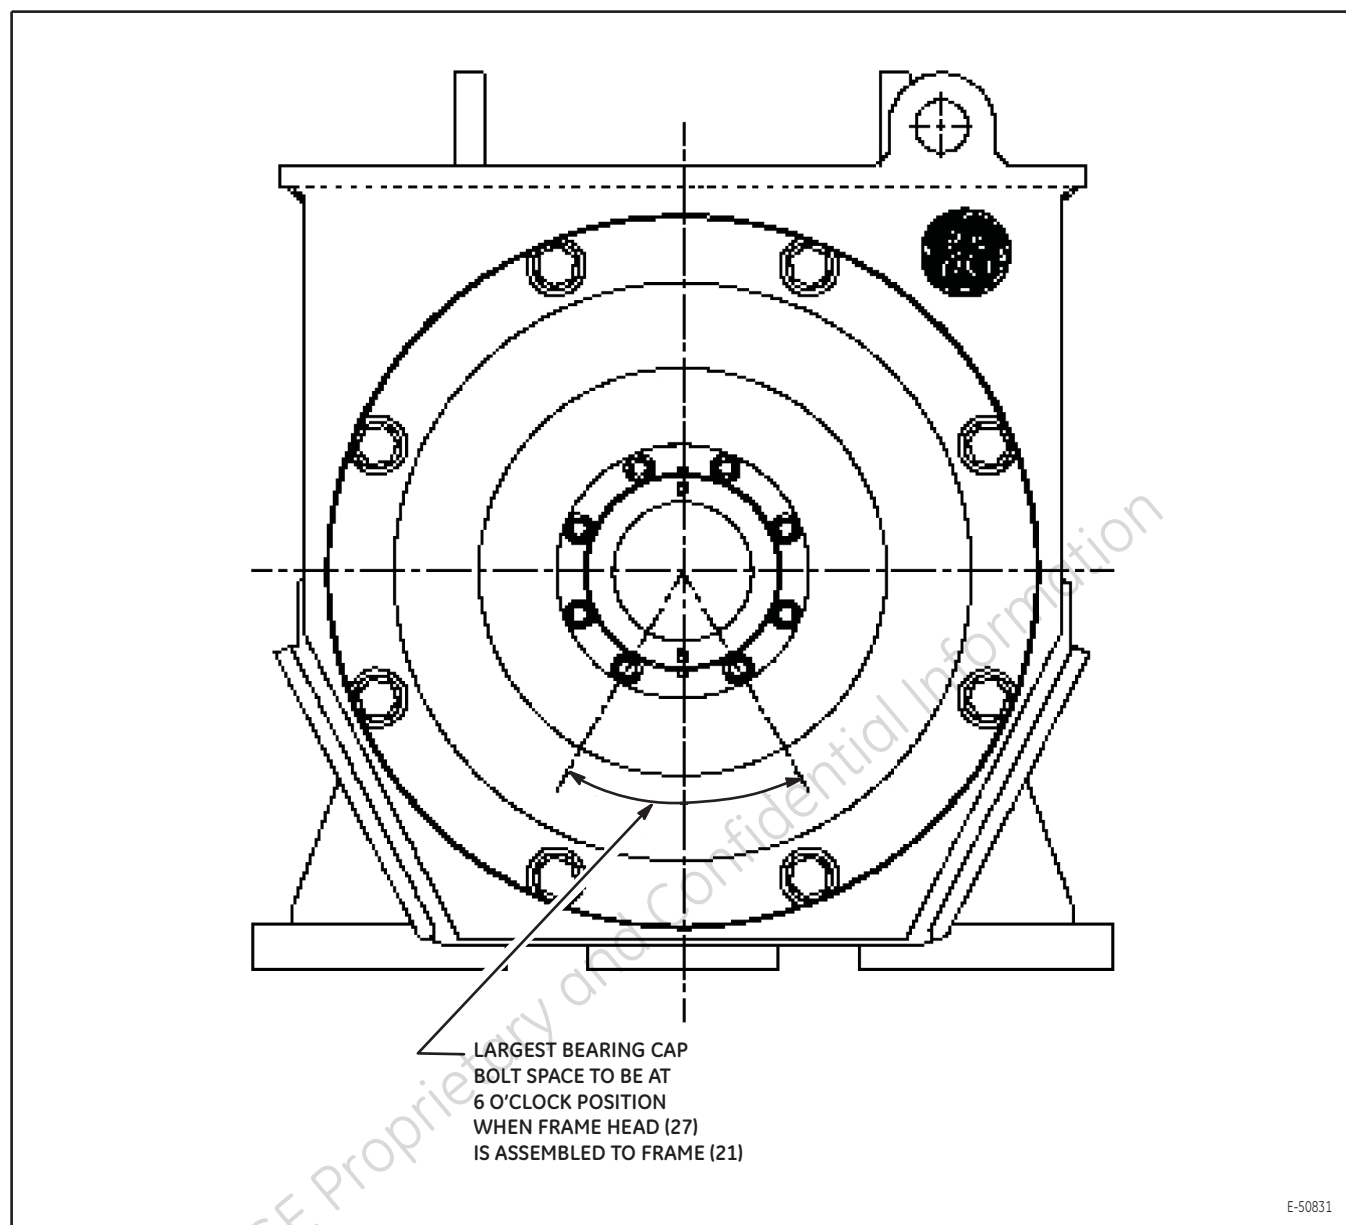
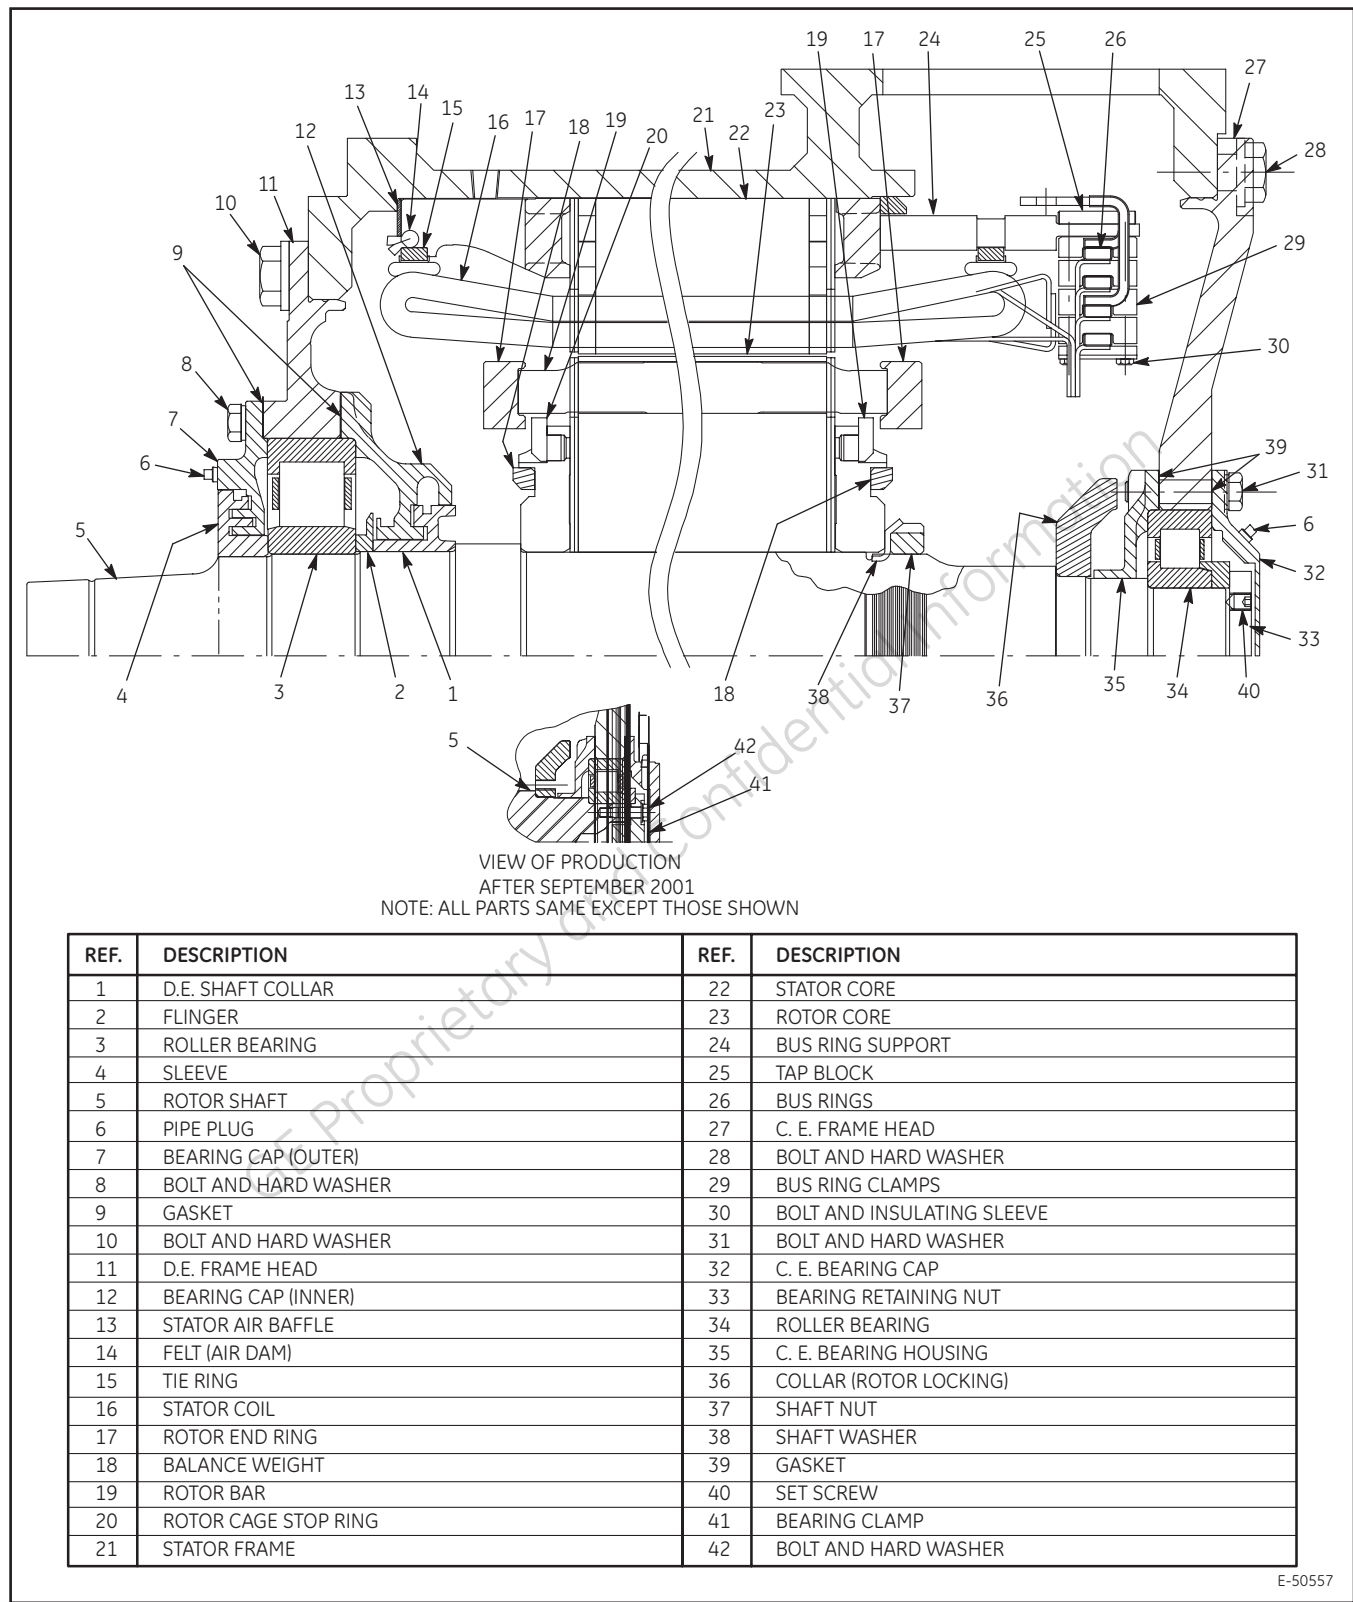

Figure 13. CE Frame Head and CE Bearing Cap Alignment.
Figure 15. 5GEB22 Drill Motor Component Identification.
1. The CE frame head (27) must be mounted on the stator frame (21) prior to rotor installation. If the CE frame head is not installed, install the CE frame head as follows:
- a. Ensure the stator frame (21) CE frame head fit is free of damage and burrs.
- b. Ensure the CE frame head (27) stator frame fit is free of damage and burrs.
- c. Align the CE frame head (27) on the stator frame (21) so that the largest gap on the CE frame head bearing cap mounting holes is toward the stator frame feet as shown in Figure 13 .
- d. Thread the CE frame head eight mounting bolts and hardened flat washers (28) through the CE frame head into the tapped holes of the stator frame (21).
**NOTE: Numbers in parenthesis () refer to item numbers in Figure 15 located in section 6.2. DRILL MOTOR COMPONENT IDENTIFICATION of this publication, unless otherwise noted.**
2. Apply 2.8 oz. (79.4 g) of GE Specification D6A2C10 grease to the CE bearing cap (32).
3. Align the CE bearing cap (32) with the largest gap between holes toward the mounting feet as shown in Figure 13. Assemble the bearing cap (32) to the CE frame head (27) and inner bearing housing (35) with eight bolts and hardened flat washers (31), and torque the bolts to 115 ±5 lb-ft (155 ±7 Nm).
1. Using stiff putty, secure thermometers to the Drive End (DE) (7) and Connection End (CE) (32) bearing caps. The thermometers should be in physical contact with the bearing cap for a valid test.